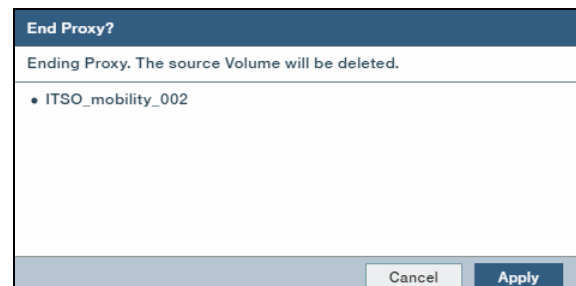

Figure 7-28 Confirm the ending of the IBM Hyper-Scale Mobility proxy
3. A confirmation window opens, as shown in Figure 7-28, to ensure that you mapped the host to the destination volume and confirmed access to it. This configuration was confirmed in the Cleanup stage.